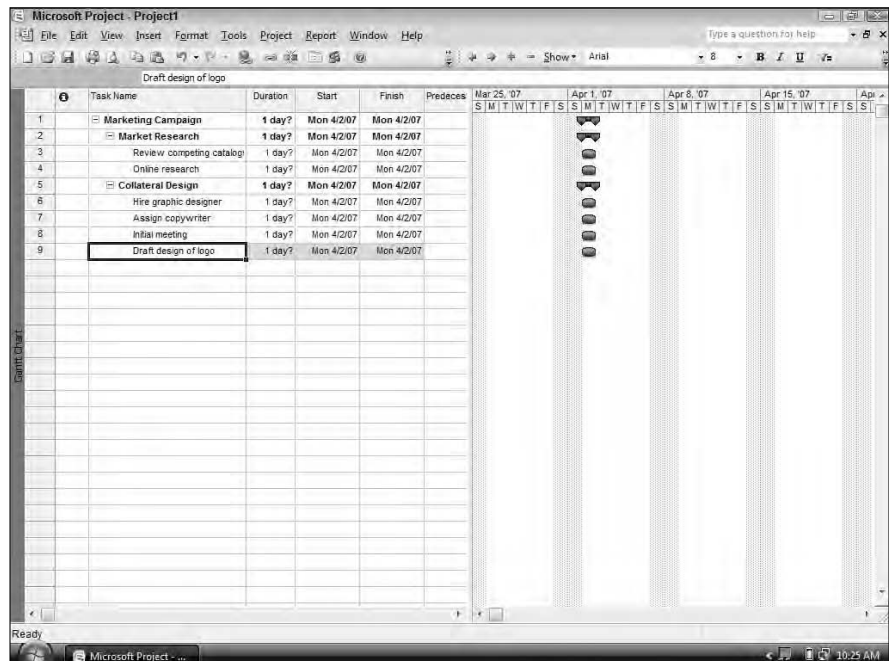

Figure 1-1:
- 1. Planning:** Whether it takes hours, days, or months, this is a very important phase. This is when you identify your goal or goals (see Chapter 2 of this minibook for more about this process), get management support for the project, and line up your internal and external resources, including people, facilities, equipment, and so on. In Project you can start to sketch out your Project plan by adding tasks that, at this point, might or might not have timing (see Figure 1-1) and entering information about resources that you'll use.